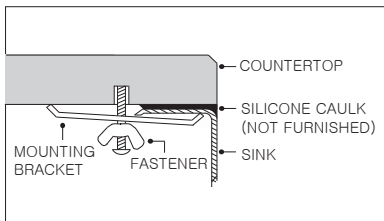

Figure 1
1. Unpack the new sink and check the contents of the materials supplied: (1) Sink and set of Mounting brackets, (1) Cutout template.
- A. Flush mount: Sink edge is flush with countertop opening. (Figure 1)